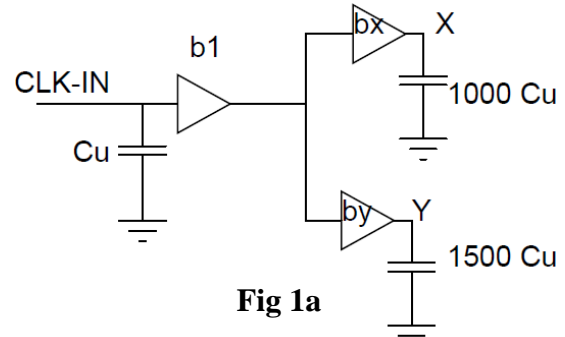
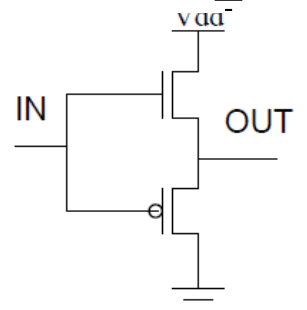

Fig 1a
Fig 1b
Q1. An external clock is routed to two nodes X and Y through the path as shown in fig 1a. The final loads (as annotated on the Fig 1a) is a function of the unit capacitance C_u , which is the input capacitance of the first buffer (b1), and is equal to the input capacitance of a minimum-sized inverter
- b) Now, the clock driver circuit shown in fig 1b is used to replace every stage in the buffers **b1**, **bx**, and **by** of Fig 1a. Determine the value of voltage V_x (highest and lowest both) received at node X, Y.
- c) Given, buffer **b1** is implemented by circuit of Fig. 1b. Now design the schematic of a low swing inverting clock driver which be used for stages of **bx**, and which can be driven by **b1** and gives valid signal at node X. Determine the logical effort of this low swing inverting clock driver.